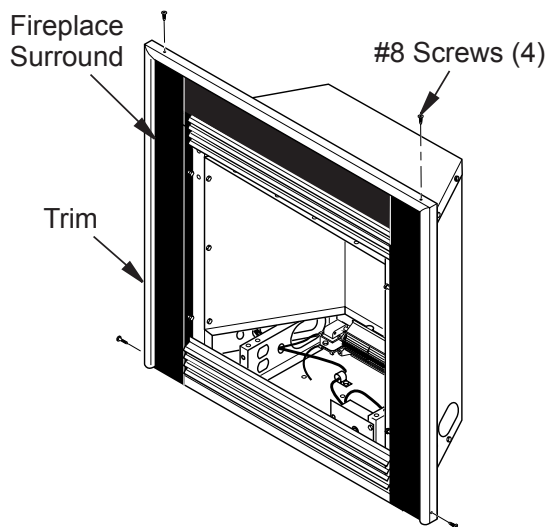

Figure 22 - Attaching Trim to Fireplace Surround
9. Install trim after final finishing and/or painting of wall (see Figure 22, page 14).
8. Line up holes in surround trim with holes on side panels of fireplace surround assembly. Attach with screws provided (see Figure 22).